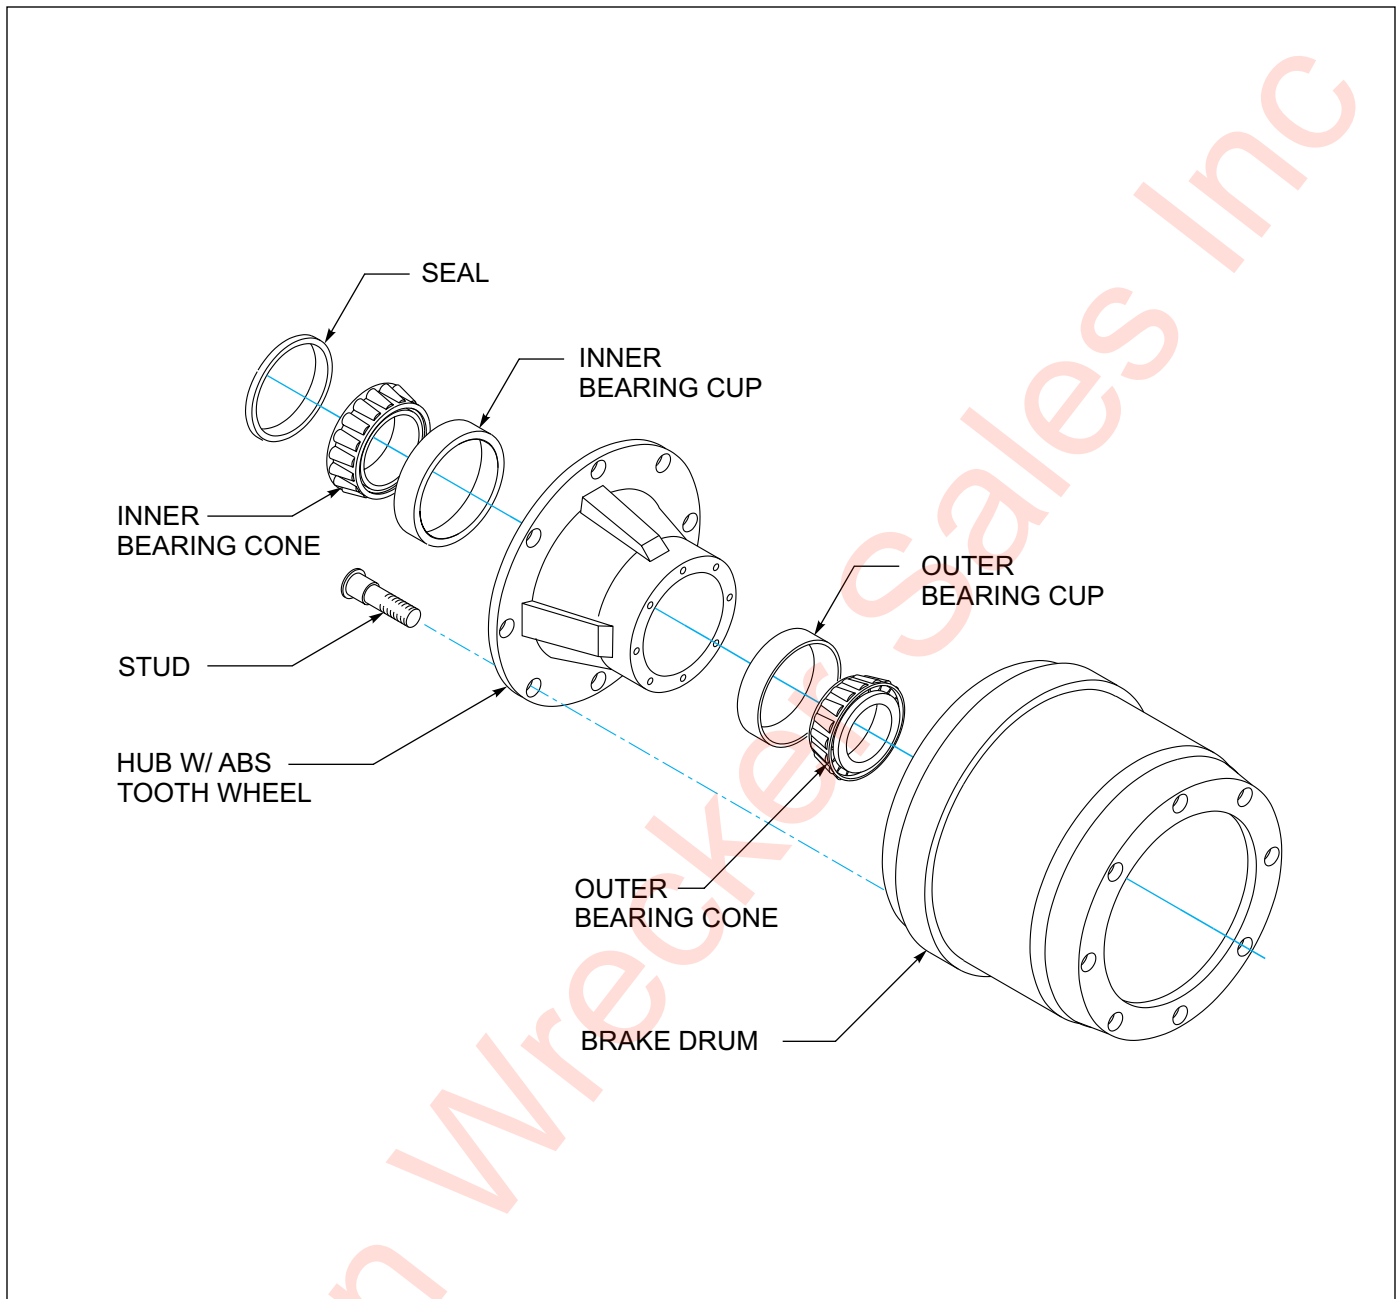

Figure 4-14: Outboard Mount Hub and Drum
(See Figure 4-14)
- i. Place the drum over the hub and brake shoes being careful not to damage the threads on the studs (See Figure 4-14.) Make sure the drum seats flat against the hub flange and mates properly with the hub pilot. There should be no interference between the brake drum pilot chamfer and the corner radius on the hub. If interference exists, the hub will not be able to function properly.
- k. If studs are marked "R" or "L", right hand ®) hubs should be installed on the curbside of the vehicle, left hand (L) hubs should be installed on the driver side.